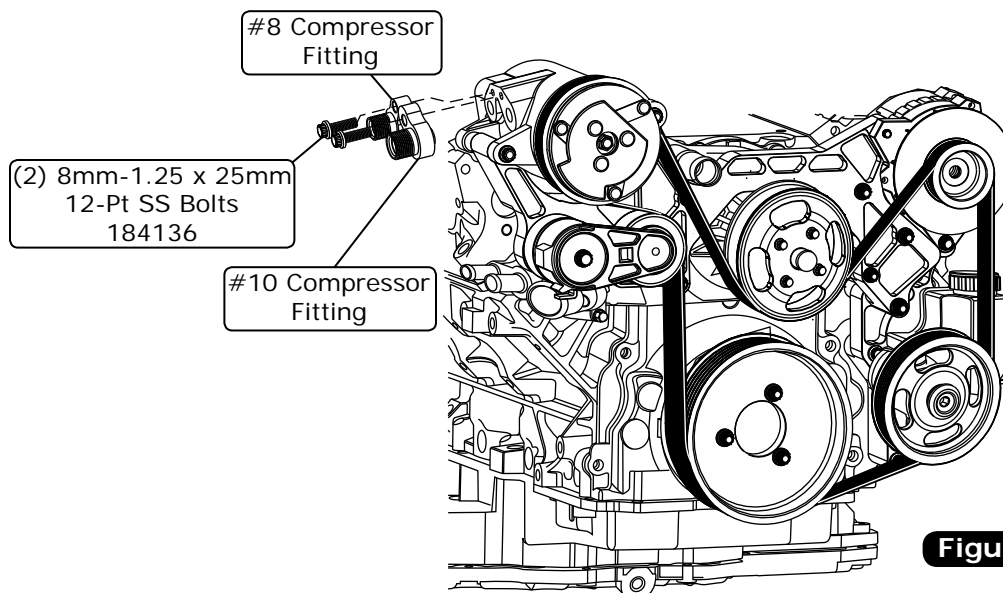

Figure 13
1. Install the #8 and #10 A/C compressor fittings onto the compressor using (2) 8mm-1.25 x 25mm 12-Pt SS bolts as shown in Figure 13, below. Torque to 18 lb ft. **NOTE: Keep the ports sealed with caps until the A/C circuit has been completed.**